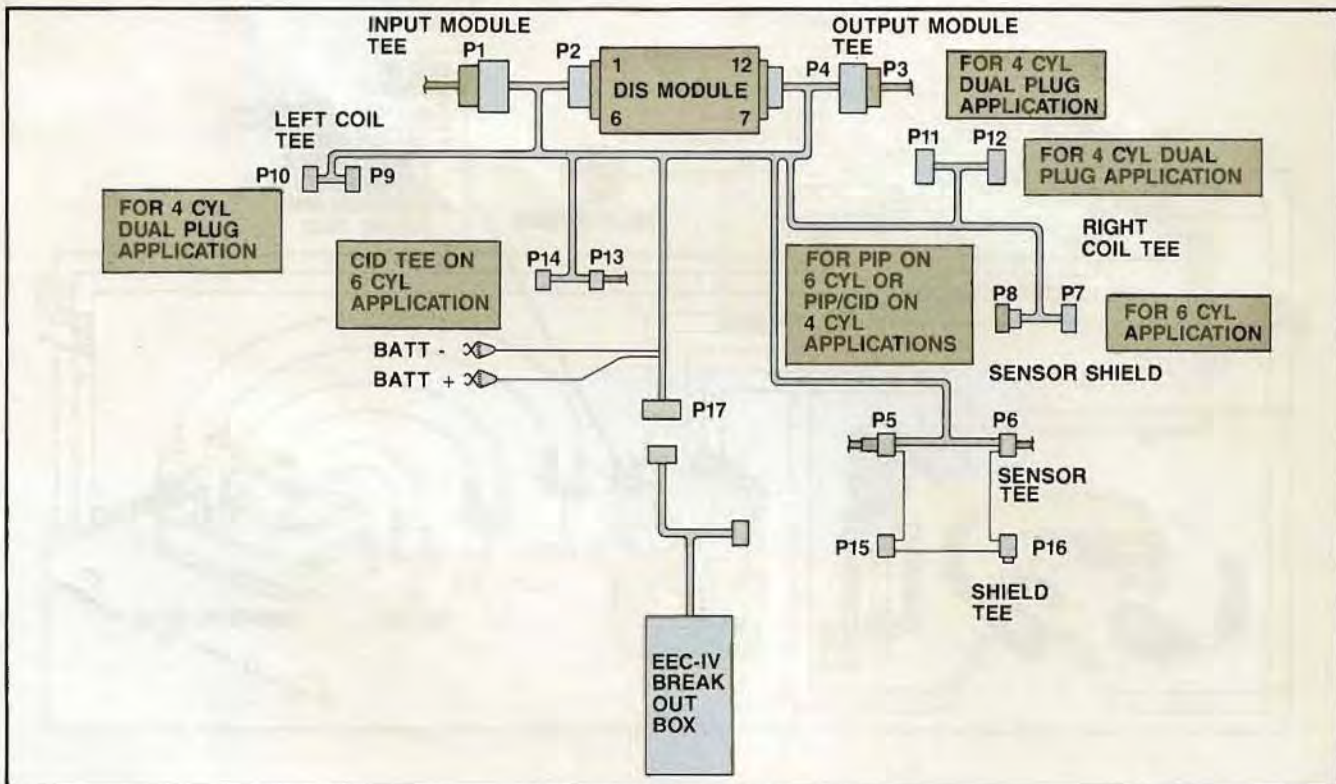

Figure 6. DIS Diagnostic Harness
- DIS Diagnostic Harness, Rotunda 007-00044 (Figure 6). Also contained in this harness package is a DIS Diagnostic Harness schematic along with three EEC-IV Breakout Box Overlays. These Overlays are necessary for DIS diagnosis. Each engine equipped with DIS has its own EEC-IV Breakout Box Overlay (2.3L Dual Plug, 3.0L SHO, and 3.8L S/C).
- EEC-IV Breakout Box, Rotunda T83L-50-EEC-IV (Figure 6).